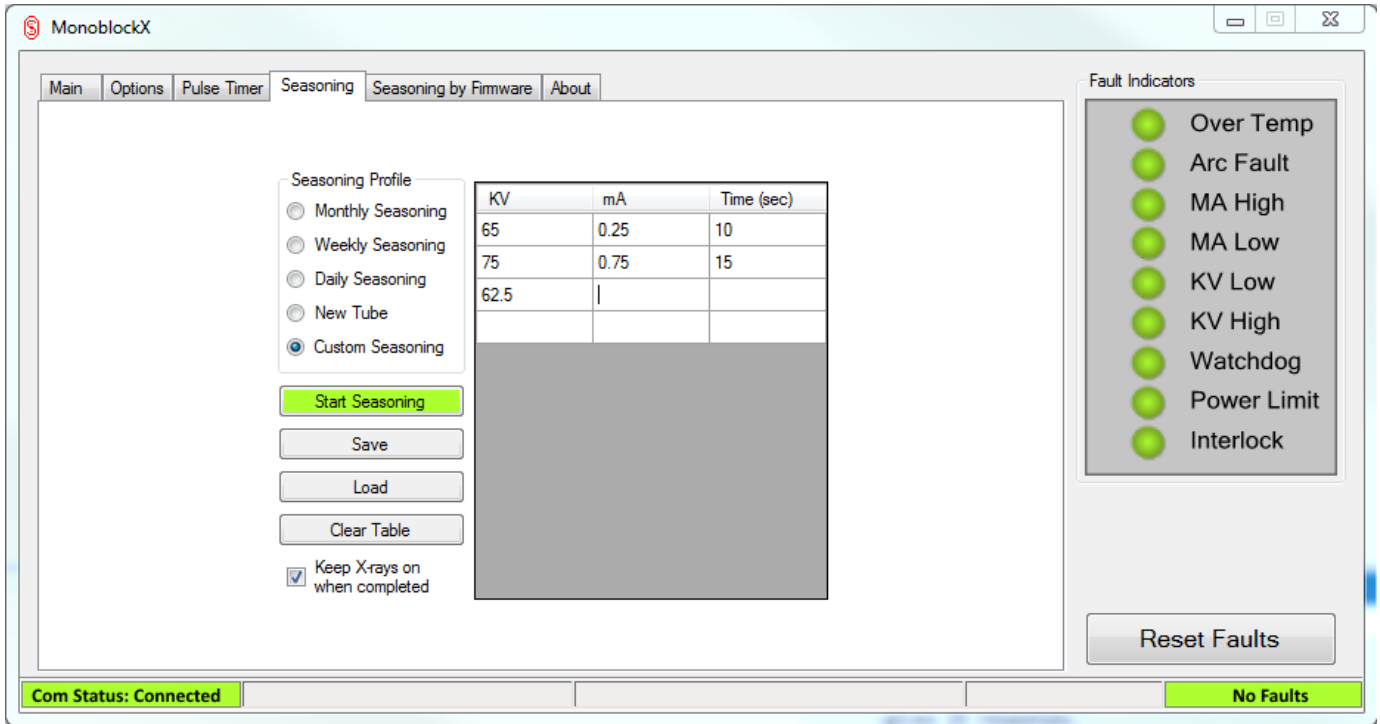
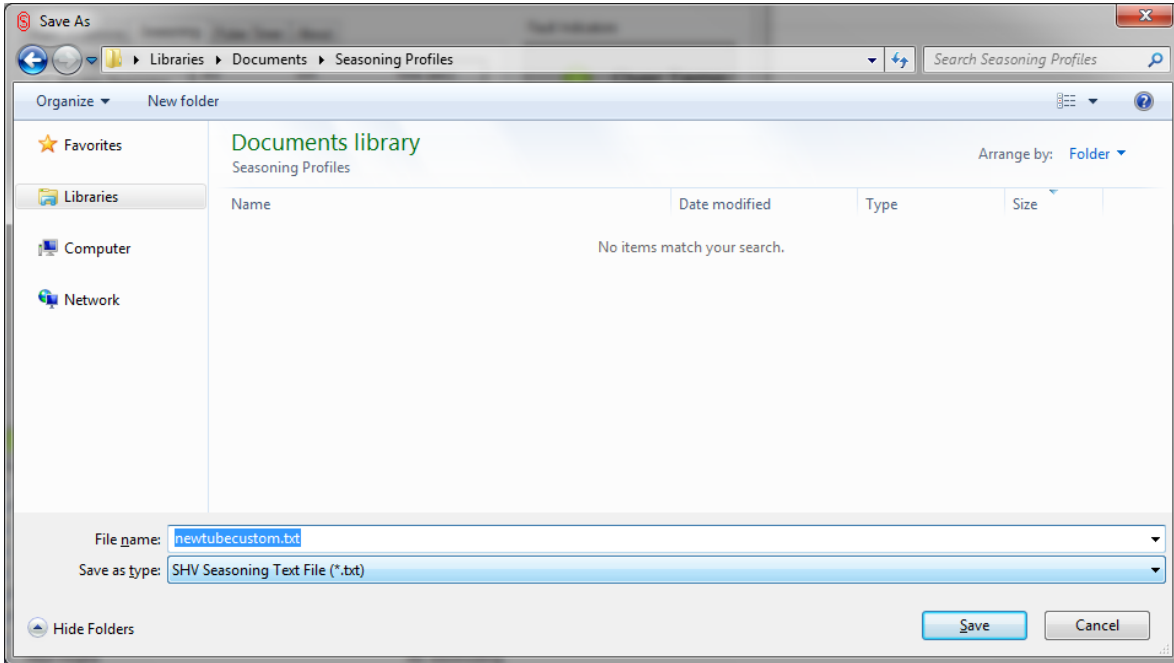

Figure 22: Custom table partially entered
Figure 23: Save file dialog for saving a seasoning profile
- a. To start the seasoning profile, click on *Start Seasoning*, at this point the software will try to verify your table by ensuring each step has all needed parameters and they are all valid. If this succeeds, you will receive a High Voltage warning (see Figure 22), indicating that continuing will cause High Voltage output to be enabled. Select OK to proceed, the HV output will be enabled and the first series of setpoints will be loaded. At this point the table will highlighted in red and yellow coloring, red for steps that have not yet executed, yellow for the step currently executing and green for steps that have been completed. The seasoning status indicators will also appear in the status bar as described in section 4.2.3 of this manual. (see Figure 23)
3. Once the profile is configured how you want it, click *Start Seasoning*, at this point the software will try to verify your table by ensuring each step has all needed parameters and they are all valid. If this succeeds, you will receive a High Voltage warning, (see Figure 22) indicating that continuing will cause High Voltage output to be enabled. Select OK to proceed, the HV output will be enabled and the first series of setpoints will be loaded. At this point the table will highlighted in red and yellow coloring, red for steps that have not yet executed, yellow for the step currently executing and green for steps that have been completed. The seasoning status indicators will also appear in the status bar as described in section 4.2.3 of this manual. (see Figure 23)